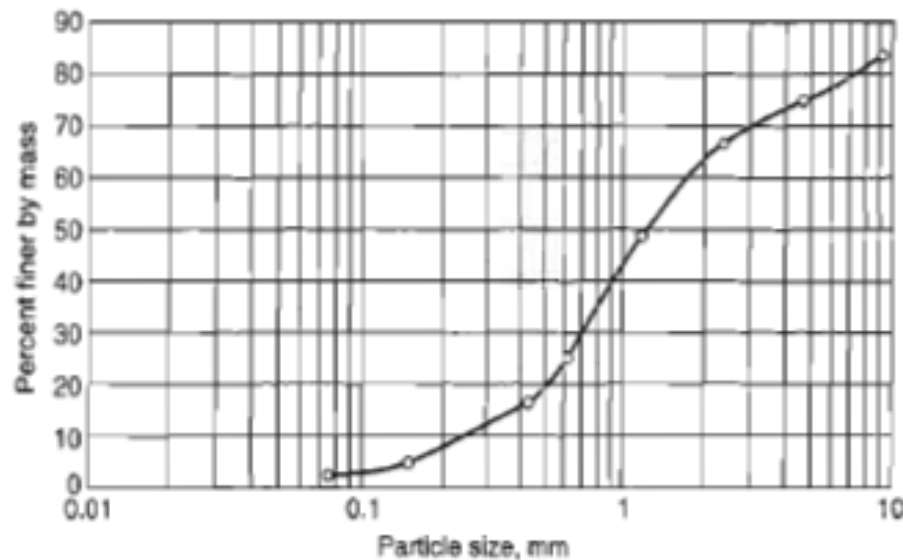

Figure 2.2.4.
- The given data are analyzed as shown in the table below. Note that the particle size (sieve opening) corresponding to each U.S. Standard Sieve number is given in the table. The results yield the grain-size distribution curve shown in Figure 2.2.4.